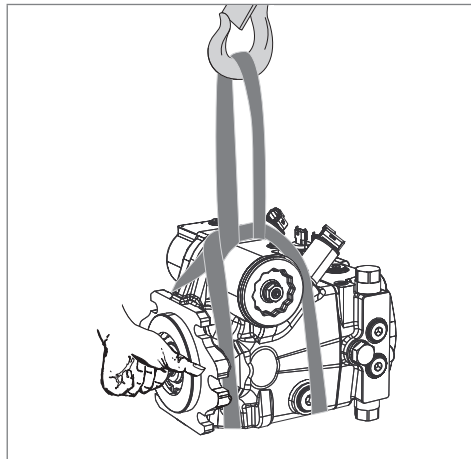

Fig. 4: Transport with lifting strap
- ▶ Place the lifting strap around the axial piston unit in such a way that it does not pass over assembled parts (e.g. valves, piping) and that the axial piston unit is not suspended from assembled parts (see Fig. 4).